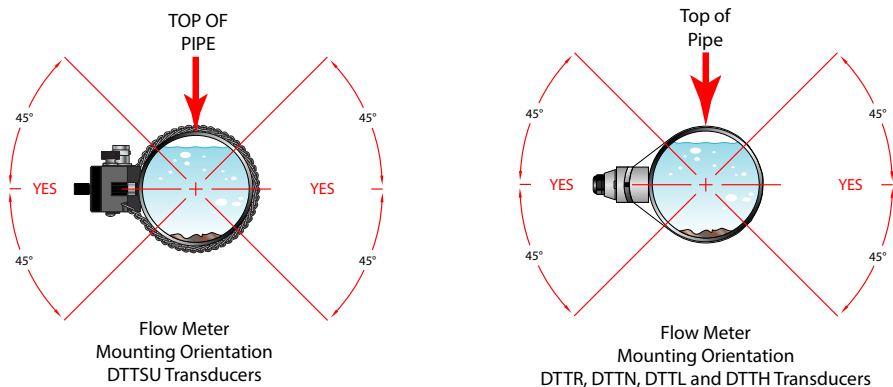

Figure 23: Transducer orientation for horizontal pipes
2. Orient and space the transducers on the pipe to provide optimum reliability and performance. On horizontal pipes, when Z-Mount is required, mount the transducers 180 radial degrees from one another and at least 45 degrees from the top-dead-center and bottom-dead-center of the pipe. See *Figure 23 on page 25*. Also see “Z-Mount Installation” on *page 28*. On vertical pipes, the orientation is not critical.
3. Crease the paper at the fold line. Mark the crease. Place a mark on the pipe where one of the transducers will be located. See *Figure 23* for acceptable radial orientations. Wrap the template back around the pipe, placing the beginning of the paper and one corner in the location of the mark. Move to the other side of the pipe and mark the pipe at the ends of the crease. Measure from the end of the crease (directly across the pipe from the first transducer location) the dimension derived in “*Select a Mounting Configuration*” on page 24. Mark this location on the pipe.